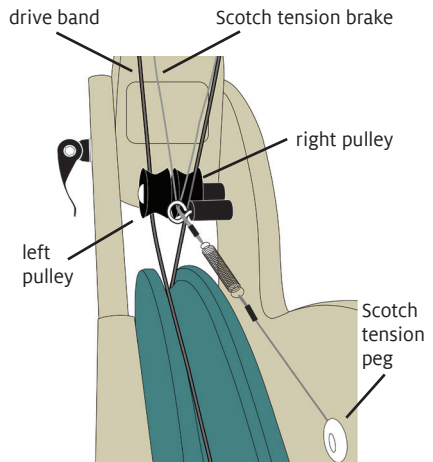

FIGURE 4: SET UP SCOTCH TENSION
**9.** Set up Scotch tension: Place the Scotch tension brake into the groove on the bobbin. Stretch the drive band over the whorl and set it into one of the whorl grooves (Figure 4).
- If the bulky flyer does not spin freely, remove it and reinstall without the drive band and Scotch tension brake. Check for the 1/16" gap between the bearing and shoulder of the flyer shaft (see Figure 4 on page 3). Spin the flyer by hand. If it spins freely, reinstall the drive band and Scotch tension brake; now you can start spinning.